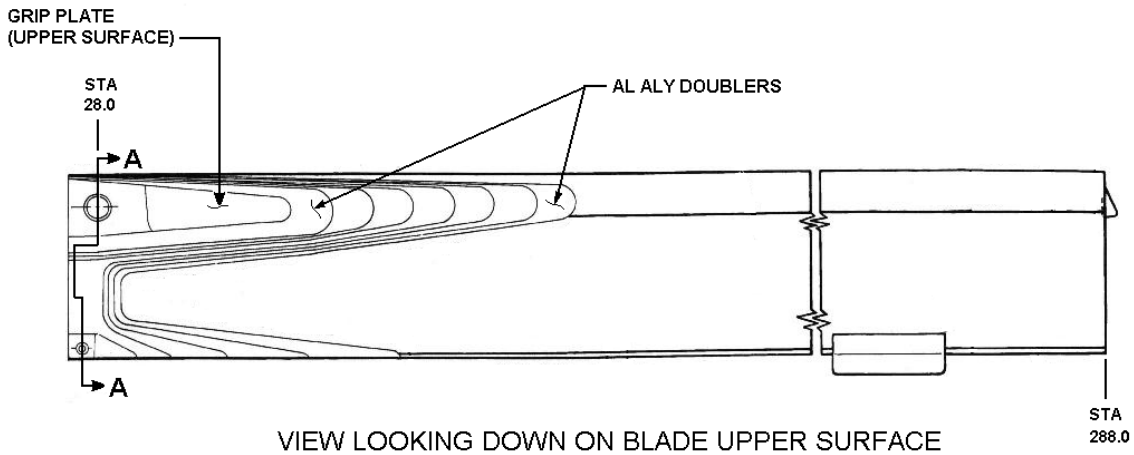

FIGURE 1
2. Refer to Figure 1. Clean blade upper and lower grip plates and the lower grip pad per TM 55-1520-210-23-1, Chapter 5.